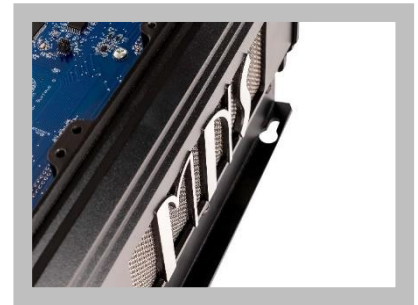

Figure 1
4. Align mounting flange keyhole of Hawke's Bay (**Figure 1**) to the lag bolts, slide Hawke's Bay down.